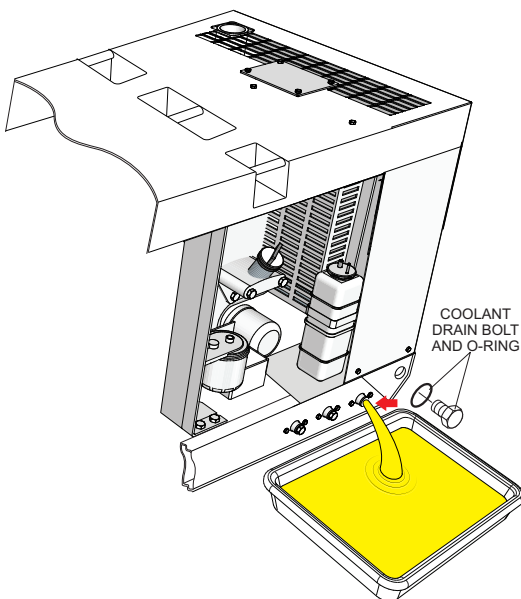

Figure 48. Draining The Engine Coolant
2. Remove the **coolant drain bolt and O-ring** (Figure 48), then allow the coolant to drain into a suitable container.